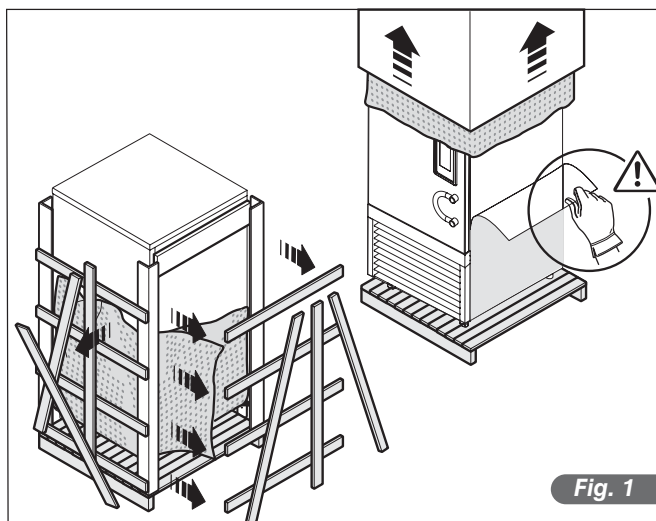

Fig. 1
- Remove the protective PVC film from all sides (Fig.1).